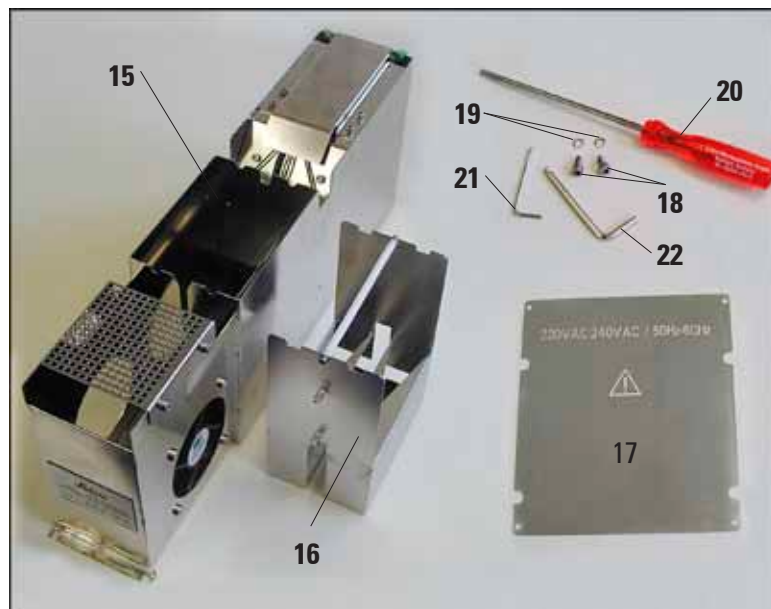
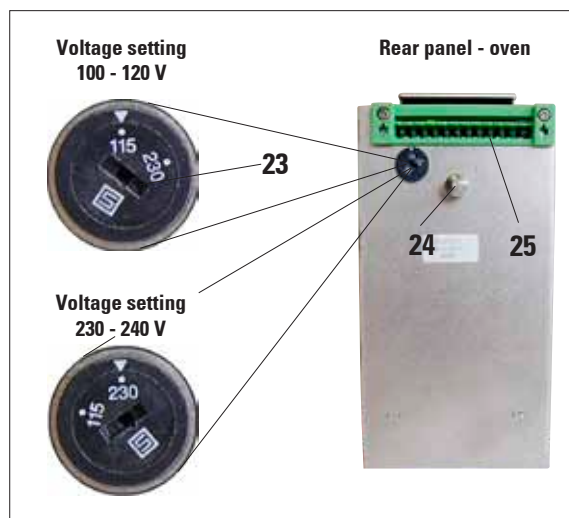

Fig. 10
Fig. 11
- Remove cover panel (28) located to the right of the electrical connections at the rear wall of the instrument.
- To remove panel (28), only remove screws (29).
**Do not loosen** the two screws (30)!
- Once the oven is installed, attach cover panel (part of oven kit delivery) (17 in Fig. 10) with four screws (29) in such a way that the voltage selected is visible from the outside.
- Place oven on rails (32) and insert.
- Keep pushing until the connection pieces of the oven (positioning pin (24), connector strip (25), see Fig. 11) lock into the corresponding connections (31) in the instrument.
- Next, use the two screws (18) and washers (19) to secure the oven (15) in the bores provided in the instrument for that purpose.
- Fasten cover (item 17, Fig. 10) so that the voltage range selected for the oven (15) is the same as the engraved voltage range.